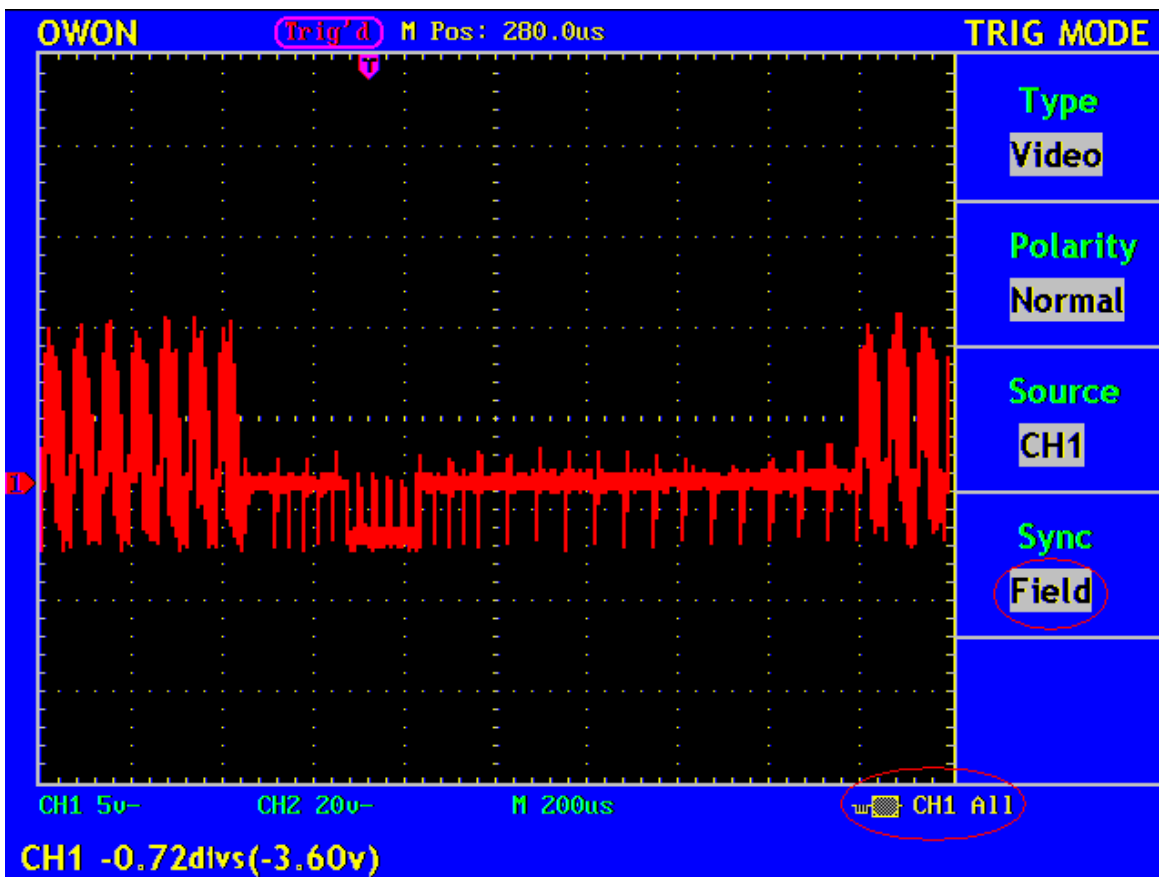

Fig. 31 Wave Form Triggered in the Video Field
5. Press the **F4** menu selection button and choose **Field** for Sync. The screen display is shown as Fig. 31.